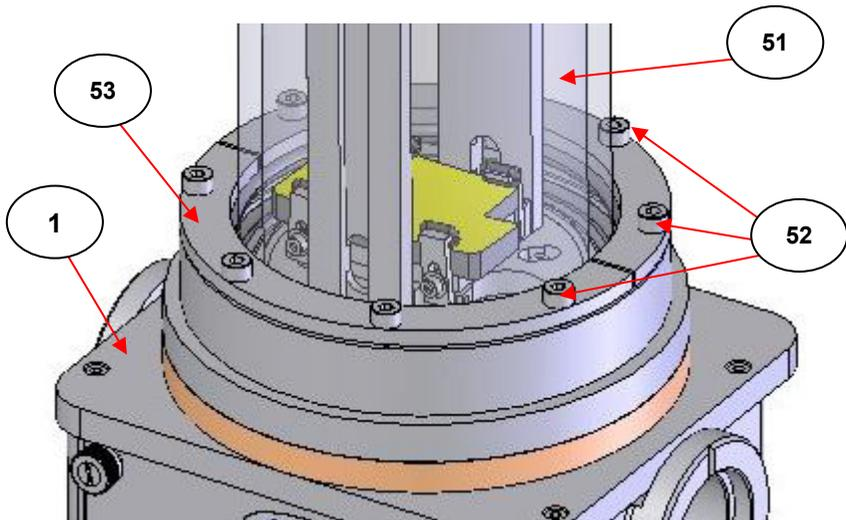

Fig 31. C5 Gas Cell Outer Cylinder (G) or (M) Assembly Removal
Specifically, to gain access to the mirror frame assembly inside the gas cell, the outer surrounding gas cylinder (51) of a (G) or (M) body cell is removed. For the C5 size cell this is achieved by unscrewing and removing the **eight** lower M4 x 16mm screws (52) to the lower flange clamp ring plate (53) that holds the gas cylinder in position. For the C10 size cell there are **twelve** lower M4 x 16mm screws (52) to unscrew and remove from the lower flange ring clamp plate (53). See Fig 31.